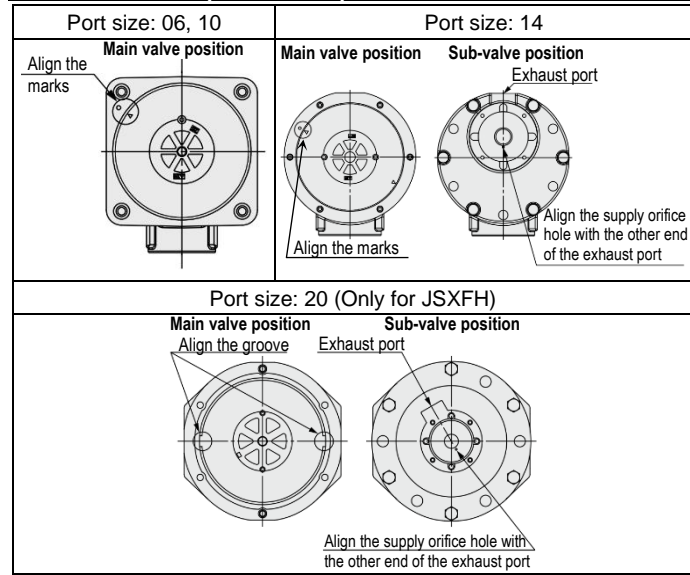

Fig.7
- Assemble the main valve (and/or sub-valve) to the body, with reference to the mounting orientation shown in Fig.7.